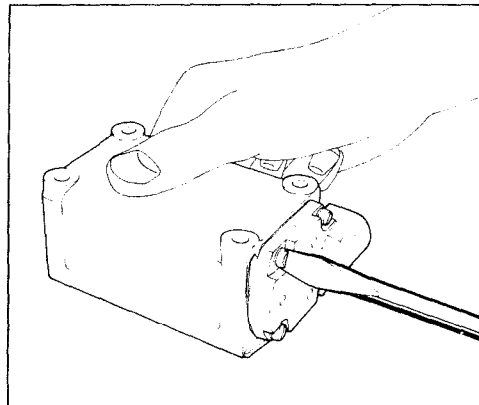

FIGURE 2-171
- (5) Assemble diaphragm cover, lockwashers and fastening screws so that air inlet hole of cover is toward right side of pump when viewed from governor end. (See figure 2-171). Tighten screws per value listed in Torque Chart, Section XI.